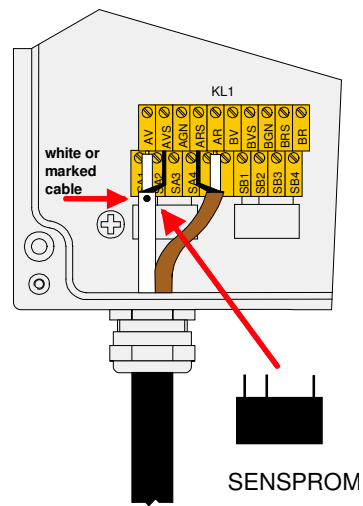

Fig. 4.7: Terminals for the connection of the transducers, connection type JT
- Connect the leads to the terminals of terminal strip KL1 as indicated in Fig. 4.7.